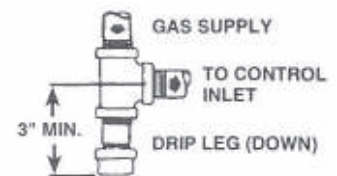

Figure 1
4. If it is not already installed, a drip leg (sediment trap) should be added to the gas supply line to the control. (See Figure 1) All piping must comply with local codes and ordinances and with National Fuel Gas Code (ANSI Z223.1/NFPA. No. 54).